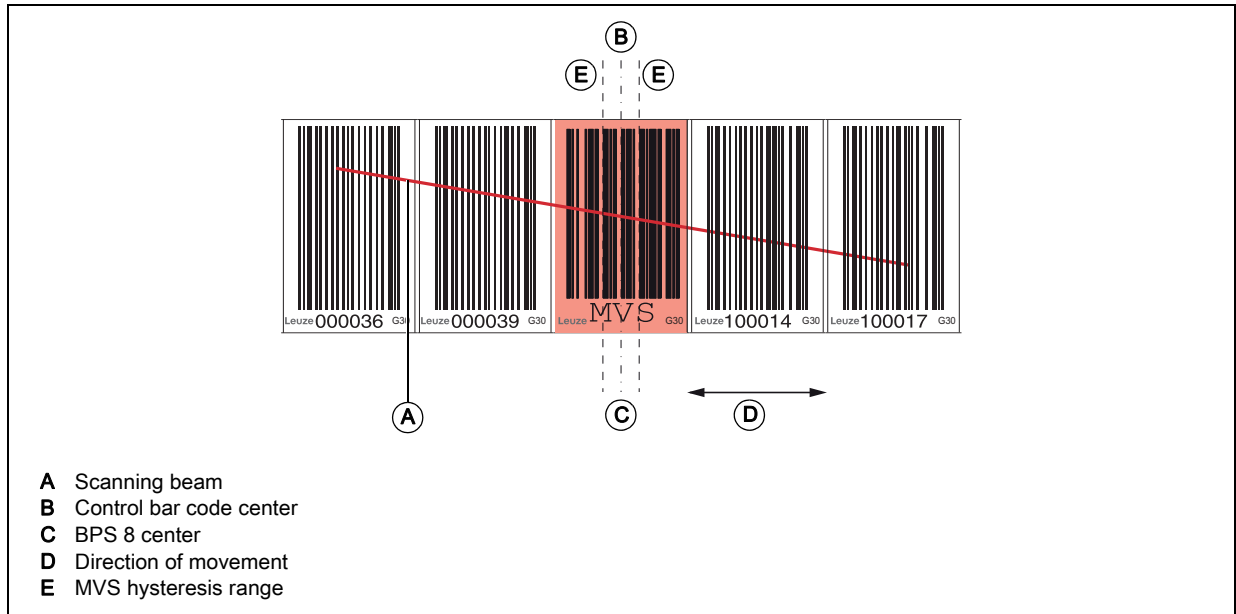

Figure 5.4: Measurement range changeover via MVS control bar code
- If the center of BPS 8 reaches the center of the MVS control bar code at the transition position, the value range of the subsequent BCB is switched to – provided the BPS 8 has the next position bar code in the scanning beamsee figure 5.4.
<p>Measurement range changeover! The measurement range changeover from the preceding to the subsequent BCB occurs when the center of the BPS 8 (C in Figure 5.4) is opposite the center of the control bar code (B in Figure 5.4).</p>
<p>Hysteresis for measurement range changeover! If a measurement range changeover occurs in the center of the MVS control bar code to the subsequent BCB, a hysteresis range of ± 2 mm (E in Figure 5.4) is activated. If the direction of movement is reversed within this hysteresis range, a measurement range changeover occurs to the preceding BCB 15 mm after the center of the MVS control bar code. Within this range of 15 mm, the position values are calculated from the subsequent BCB.</p>